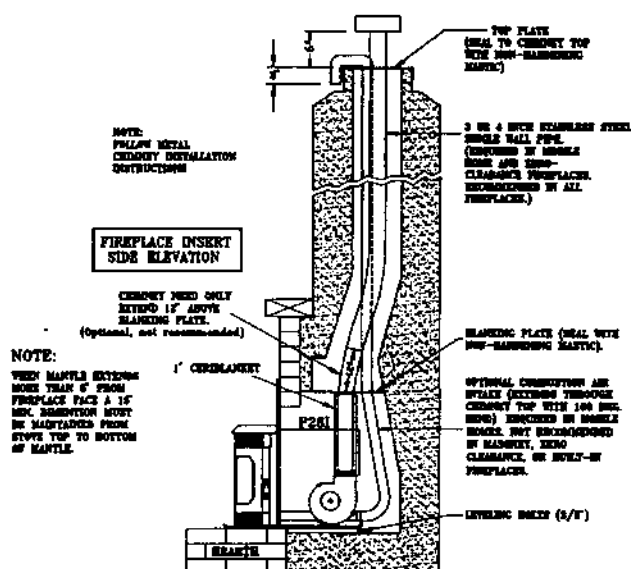

Figure 8
3. Top of chimney (see Figure 8). All factory-built fireplaces